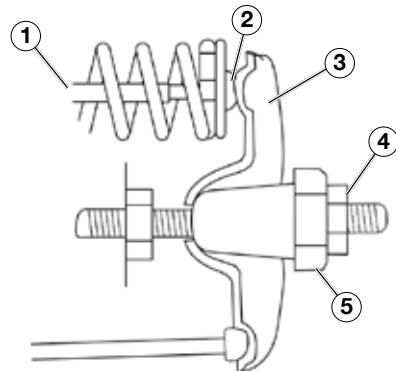

Figure 25
5. Insert a feeler gauge between the rocker arm and the push rod and check for clearance (see Figure 25). See table below for valve lash specifications